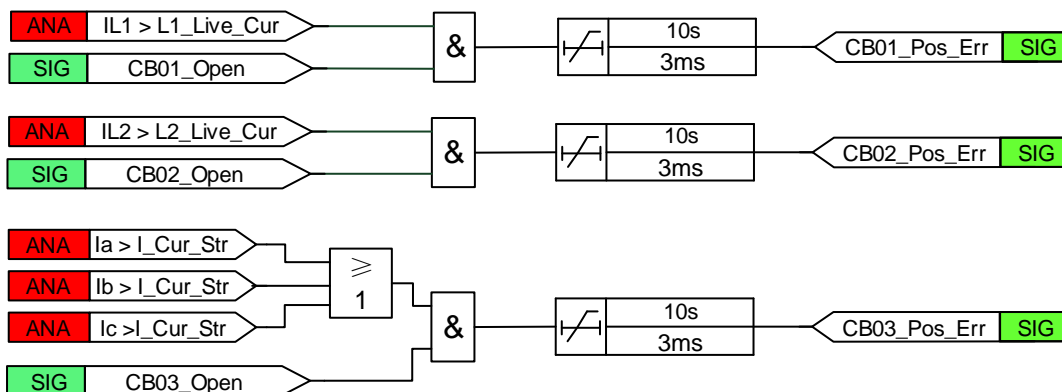

Figure 3.34-7 Diagram of CB position error logic
- 4) Operation breakers are in error status, that means the current at one phase of incoming line of operational power supply is more than incoming line no-current setting value, although the operation breakers are open. The logic diagram of CB position error is shown in Figure 3.34-7;